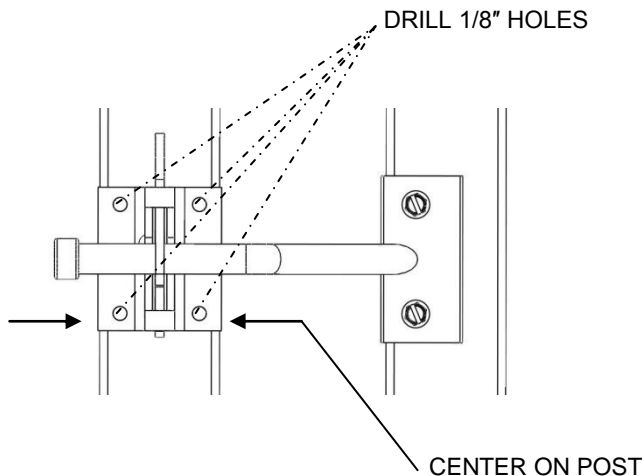
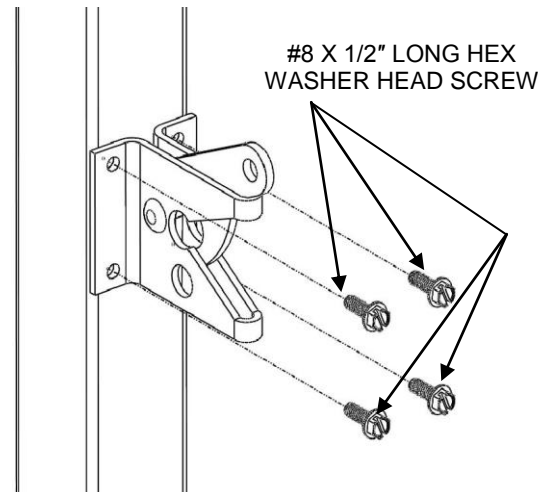

FIG. 6.32
FIG. 6.33
- 6.10.6. Clip the latch to the finger catch and center on the step or ramp vertical square tube. Mark center of the holes with pencil. Drill four 1/8" holes through one side of the vertical handrail tube (FIG. 6.32). Use 1/4" nut driver to secure latch using screws. (FIG. 6.33).